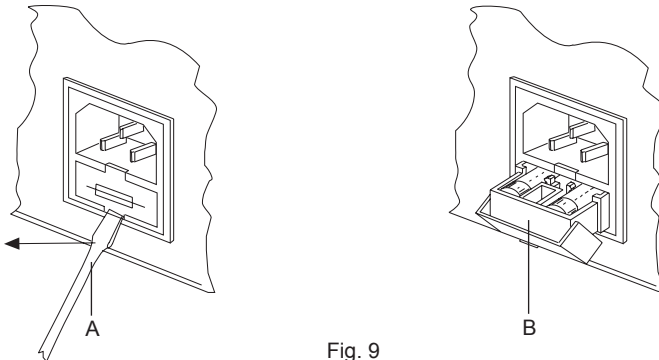

Fig. 9
- 1 Use as a lever the flat tip of a screwdriver, by inserting it into the housing of the fuse-holder compartment, under the power supply socket (Fig.9 - Ref.A).
- 2 Pull out the fuse-holder compartment (Fig.9 - Ref.B).
- 4 Put the fuse-holder into place in its housing (Fig.9 - Ref.B).